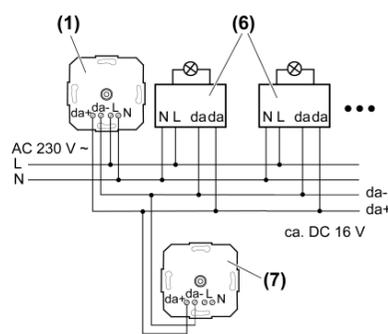

Figure 3
- (1) DALI potentiometer "Active mode"
- (6) DALI subscriber, e.g. DALI-EVG, DALI Device Type 8 for Tunable White
- (7) DALI potentiometer without connection of mains voltage "Passive mode"
- Connect the DALI potentiometer and DALI electrical ballast according to the wiring example (Figure 3). In so doing, observe the data of the electrical ballast manufacturer.